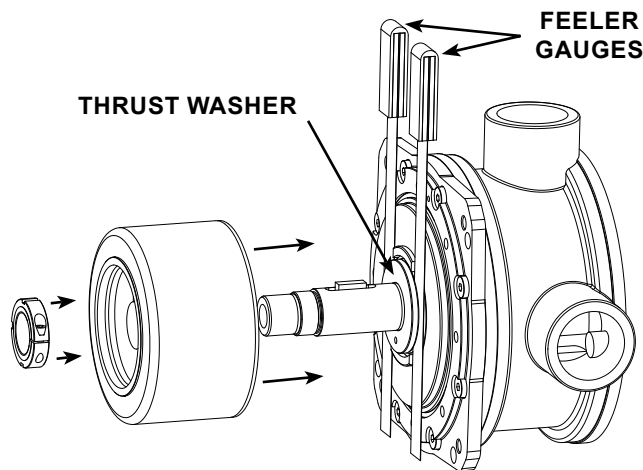

FIGURE 12
7. Place two feeler gauges (0.002"), one on each side, between the adaptor plate bushing and the inner magnet thrust washer. Refer to **Figure 12**. This will establish the proper clearance for the thrust washers. Tighten the locknut until the feeler gauges are snug, but can still be removed. Do not remove the feeler gauges at this time.